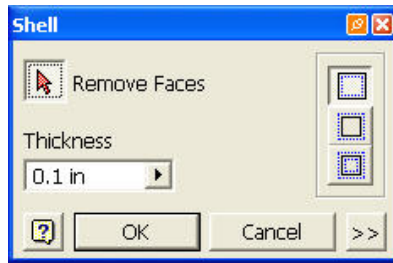

Figure 47
- Make sure that the Remove Faces button in the dialog box is depressed as shown in Figure 47.